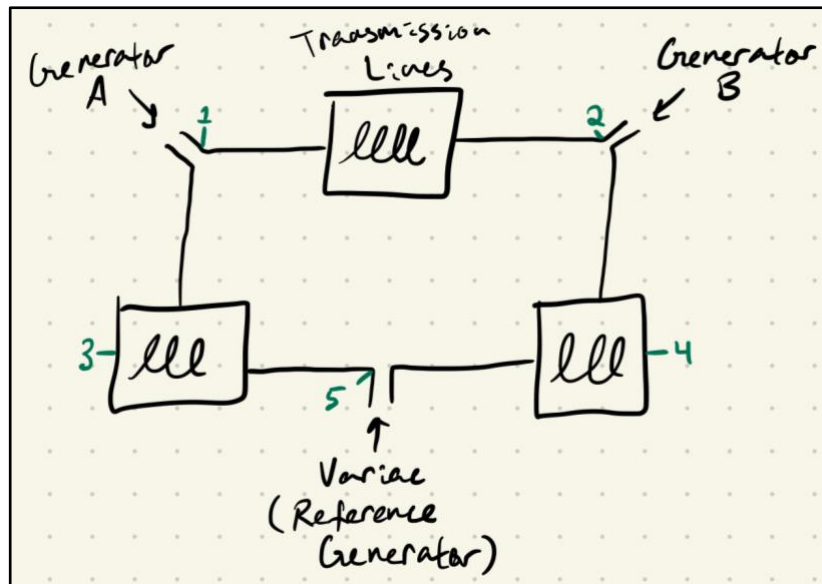

Figure 1: Basic schematic of the grid
3. Turn on the oscilloscope and wire the leads to points 1 and 3, according to Figure 1.